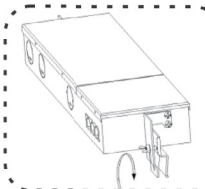

Figure4
5. Unlock the nuts from both end of Junction Box. (Figure4)